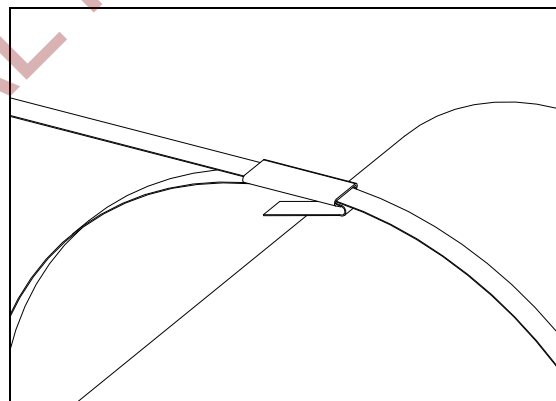

Figure 3
3. Squeeze the tension handle of the MIP-1620 down to the base and put top strap through pusher tool with the seal against the nose of the tool. Release the tension handle to clamp back down on the strap. (Figure 3) Be sure the strap is flush with the inside edge of the MIP-1620.